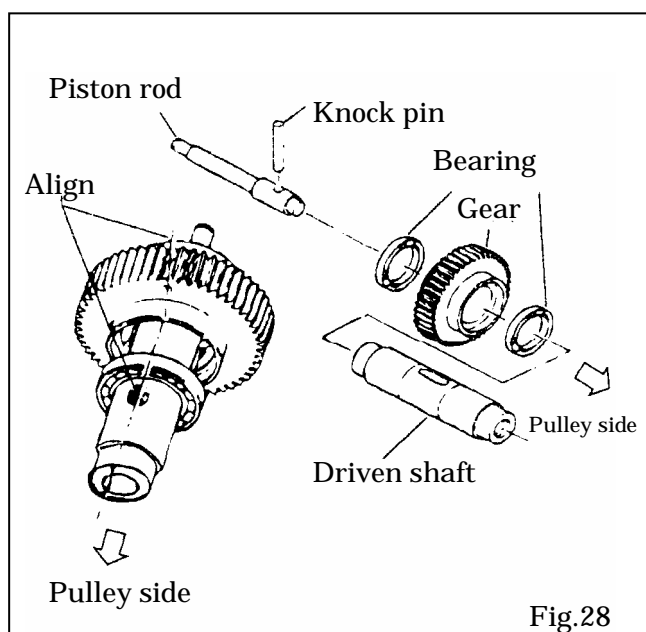

Fig.28
1. Fit the piston rod to driven shaft, penetrate knock pin through center hole and push the gear to the middle of driven shaft before inserting bearings from each side (See Fig.28).
2. Install the stop ring (See Fig.28)
Installing with the phase displaced by 180°, will cause operation of forward and reverse travel to be reversed. Also, make sure that piston rod and gear are installed in proper direction. (See Fig.28)